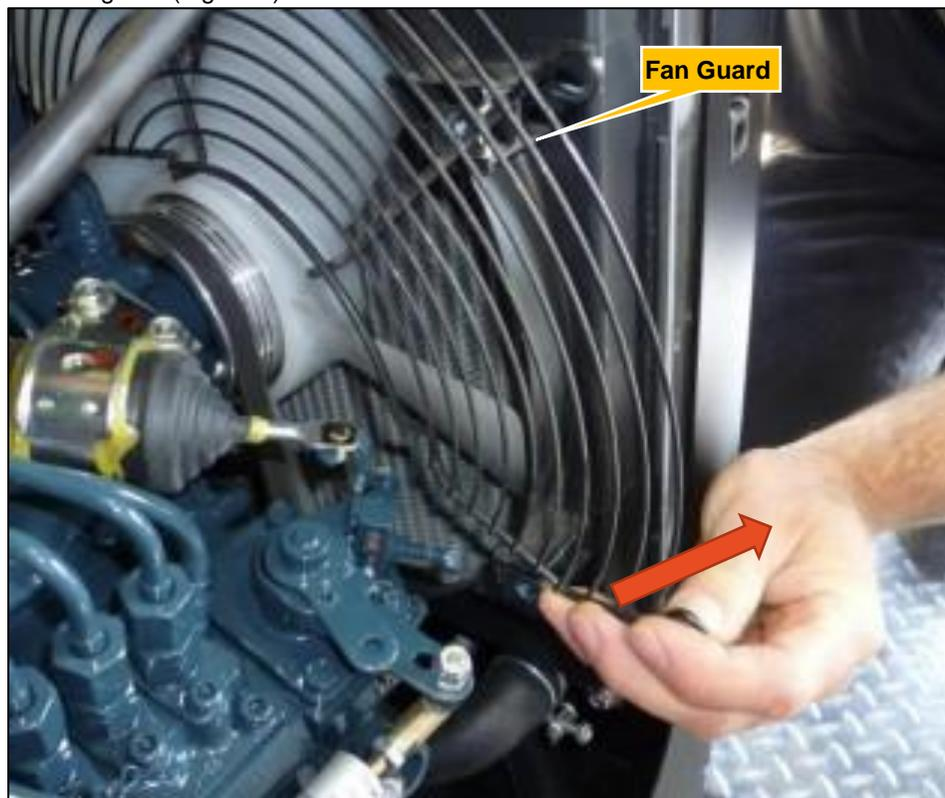

Figure 1
4. Remove fan guard (Figure 1).